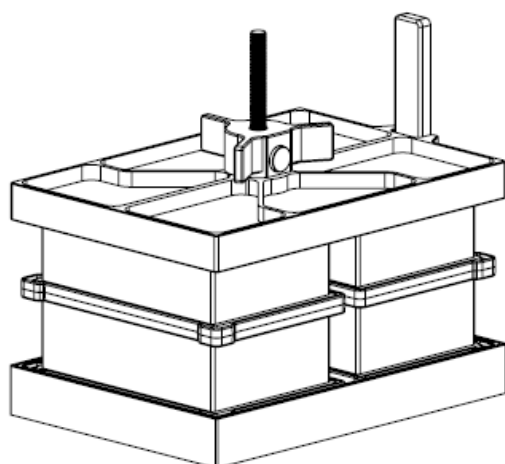

Figure 11 – Closed Clamp with 4 Titer Plates
8. Secure the clamp lid to the loaded clamp (Figure 11), following Steps 2 – 5 in Section 6.1.1, and run the Geno/Grinder.